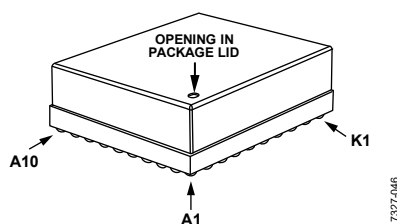

Figure 54. Pressure Relief Hole
- The hole in the top of the lid (see Figure 54) provides venting and pressure relief during the assembly process of the ADIS16500. This hole must be kept clear while attaching the ADIS16500 to a PCB. Although, covering the hole in normal operation is not typically a problem.